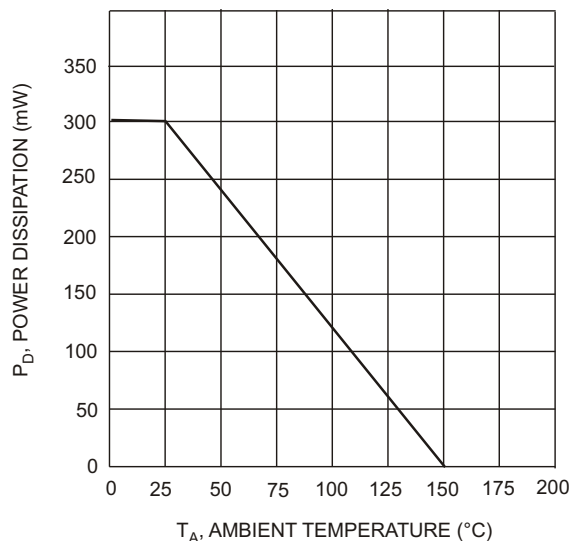

Fig. 1, Max Power Dissipation vs Ambient Temperature
2. When operated under collector-emitter saturation conditions within the safe operating area defined by the thermal resistance rating (R_{JA}), power dissipation rating (P_d) and power derating curve (figure 1).